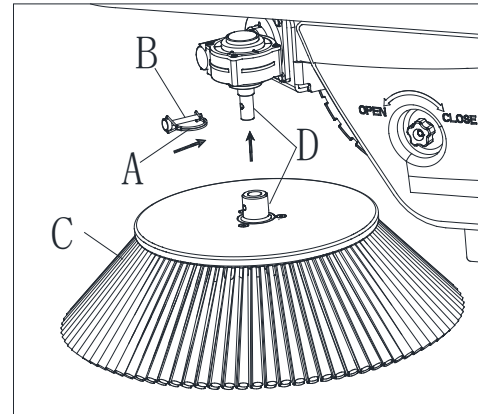

Figure 12
3. Release the spring on the "D" pin (A, Figure 12), then remove the "D" pin from the side broom shaft (B, Figure 12).
4. Place the new side broom on the side broom motor shaft, align the holes on the side broom hub with the hole on the motor shaft (D, Figure 12), then insert the "D" pin (B, Figure 12) and finally fasten the spring (A, Figure 12).